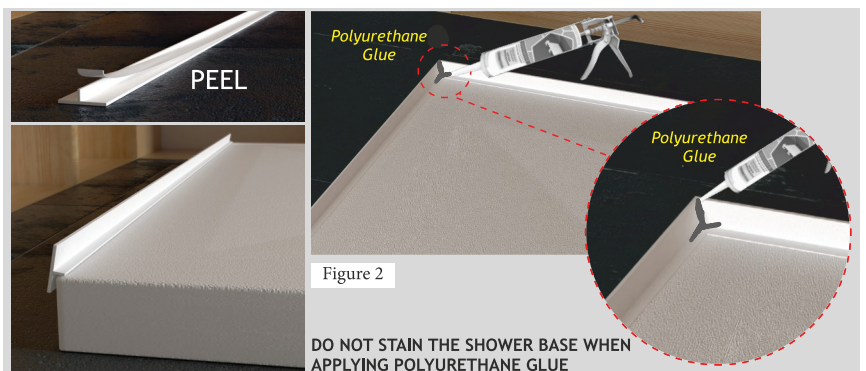

Figure 2
- 1.1.- Install the tile flange to the base and seal the corners with polyurethane glue as per Figure 2.